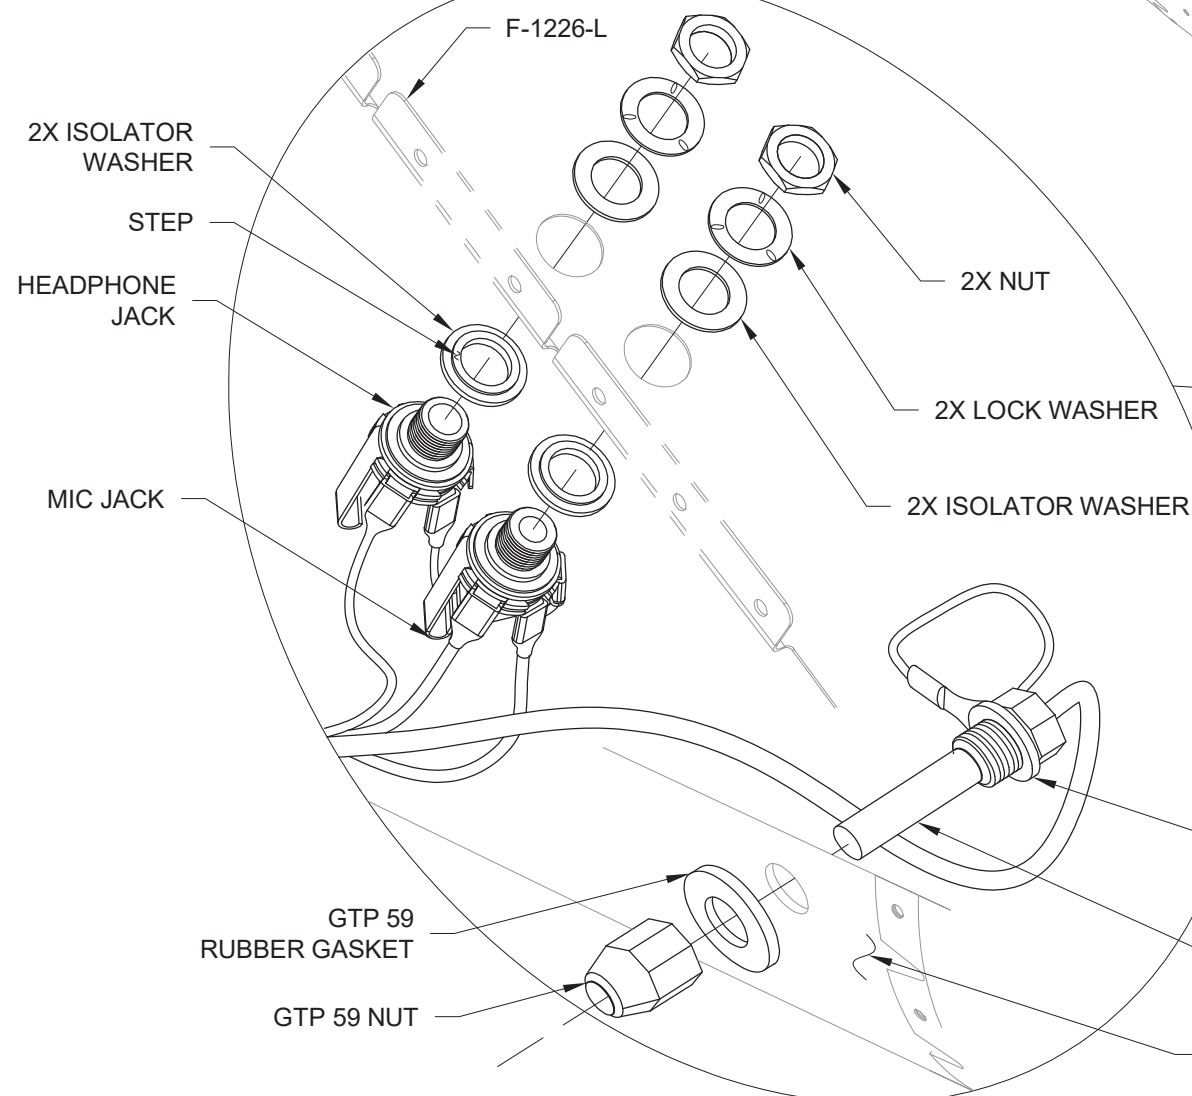

FIGURE 1: HEADSET JACK AND OAT INSTALL
Step 9: Install the GTP 59 OAT Probe into the hole in the F-1275C-L Fuselage Corner Skin as shown in Figure 1.